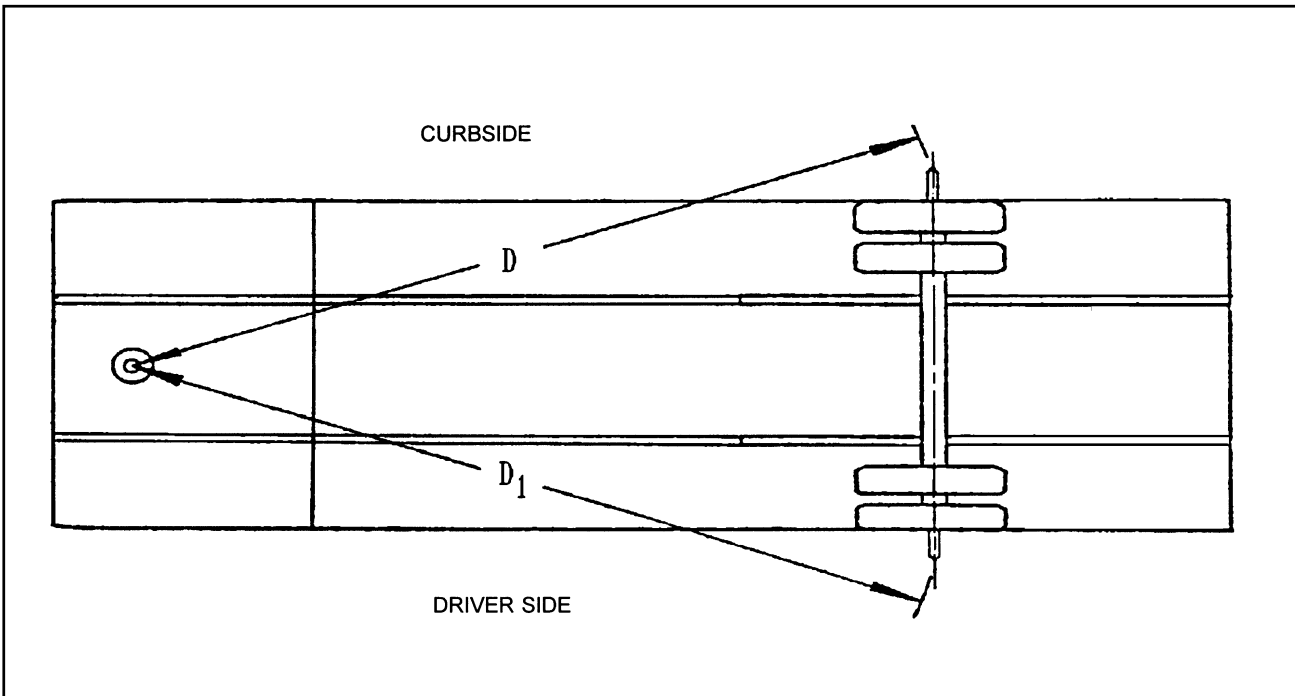

Figure 4-9 Checking Axle Alignment
4. Measure (D) from the plumb bob to the center point on one end of the axle. Record this measurement (**See Figure 4-9**).
5. Measure (D₁) to the other end of the axle in the same manner as in **Step 4.** Record this measurement (**See Figure 4-9**).